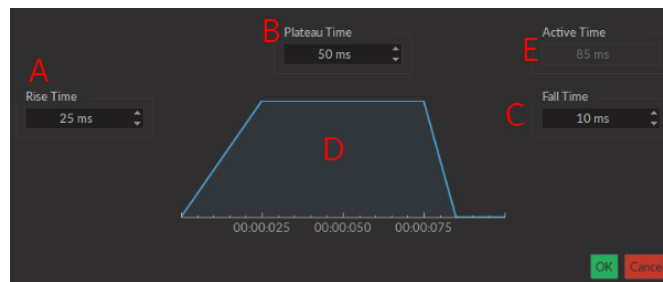

Figure 4.8: Light Source Smoothing Edge(s) Window
- iv. The **Smoothing** option is used to change the pulse slope in square pulse sequences. The **Edit Edges** button opens the **Smoothing Edge(s)** window (Fig. 4.8).
- e) The **Smoothing** option is used to change the pulse slope in square pulse sequences. The **Edit Edges** button opens the **Smoothing Edge(s)** window (Fig. 4.8).